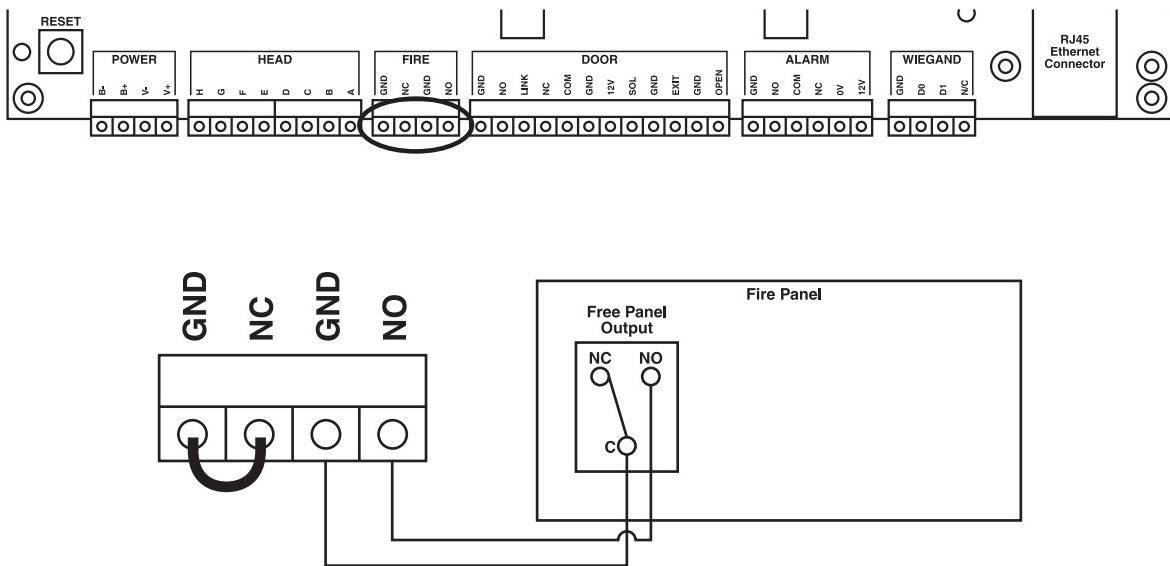

Figure 3-14. Connect the control unit to the fire panel.
1. Once you unlock a door via the fire override inputs, press the reset button on the control unit (see Figure 3-14) to reset the unit manually. Doors will remain unlocked until you reset the unit.
2. Figure 3-14 shows how to connect a control unit to a fire panel. Connect the unit to either a normally open or normally closed set of contacts as shown in Figures 3-14 and 3-15.